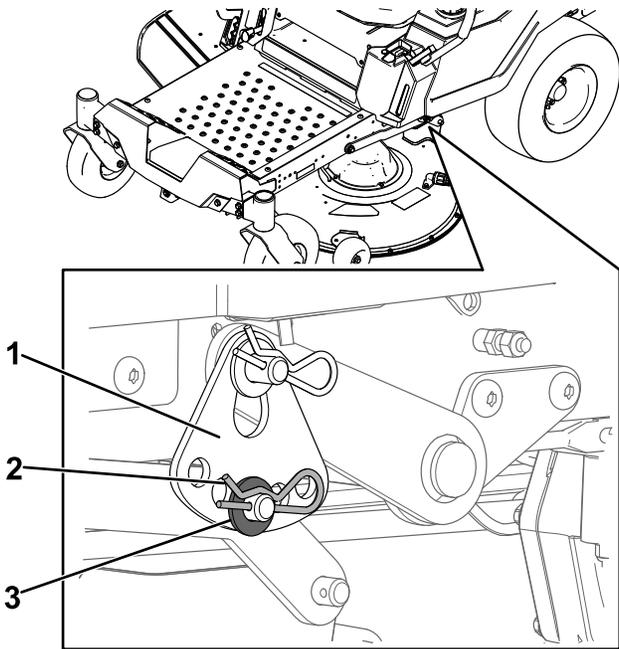

**Figure 70**
4. Place 2 blocks, each having a thickness of 6.6 cm (2-5/8 inches), under each side of the front edge of the deck but not under the anti-scalp roller brackets (Figure 70).
5. Place 2 blocks, each having a thickness of 7.3 cm (2-7/8 inches), under the rear edge of the cutting deck skirt, 1 on each side of the cutting deck (Figure 70).